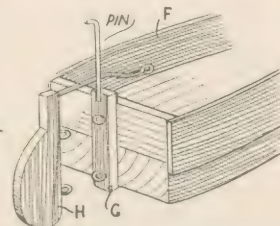

Fig. 4—The stern post and rudder
For the rudder (H) a piece of ¼ in. wood about 2½ ins. long is shaped as shown in Fig. 4, and fitted with two small brass eyes. Two similar eyes in the stern post fit under those in the rudder, which is held in place by a pin of bent brass.